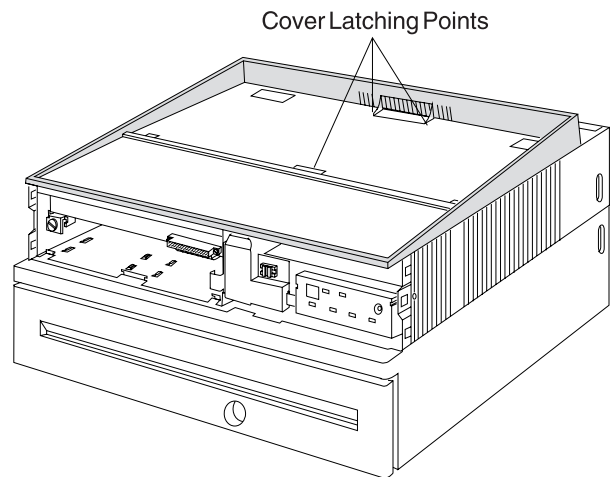

Figure 1-17. Top Cover
**Note:** This may require the use of a screwdriver to gently pry at the cover latching points. See Figure 1-17.